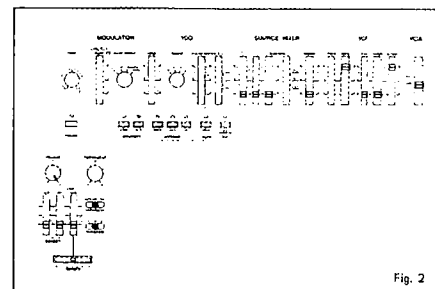

Fig. 2
- Set the panel controls as shown in Fig. 2